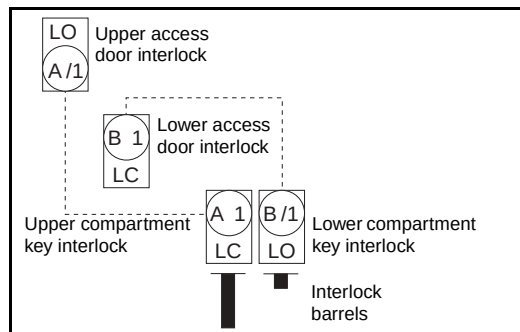

Figure 32: Interlock Status (Step 4.b.)
- b. If device is racked into a lower circuit breaker compartment, lock open (LO) the upper access door interlock (see Figure 32).